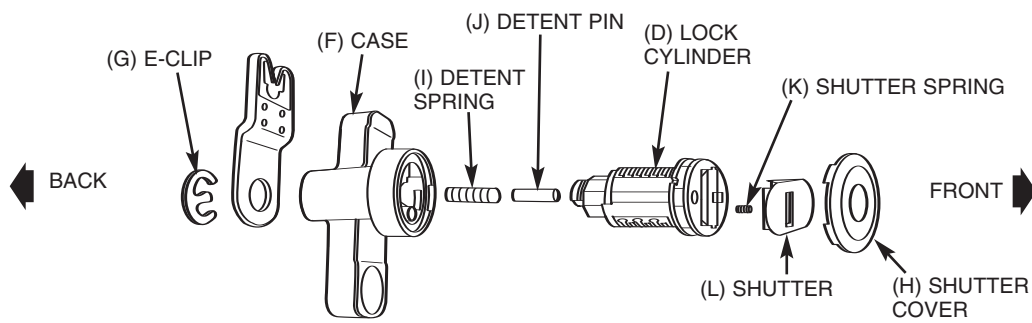

FIGURE 2
2. Assemble case detent spring (I) and detent pin (J) in case (refer to Figure 2).
3. Insert the shutter spring (K) into the round hole at the front of the lock cylinder (D), if not installed already.
4. Insert the shutter assembly (L) into the rectangular depression with notches at the long ends, located at the front of the lock cylinder (D), if not installed already.
6. Insert one (1) tumbler spring (C) into each of the holes located at the end of the tumbler slots on the lock cylinder (D).